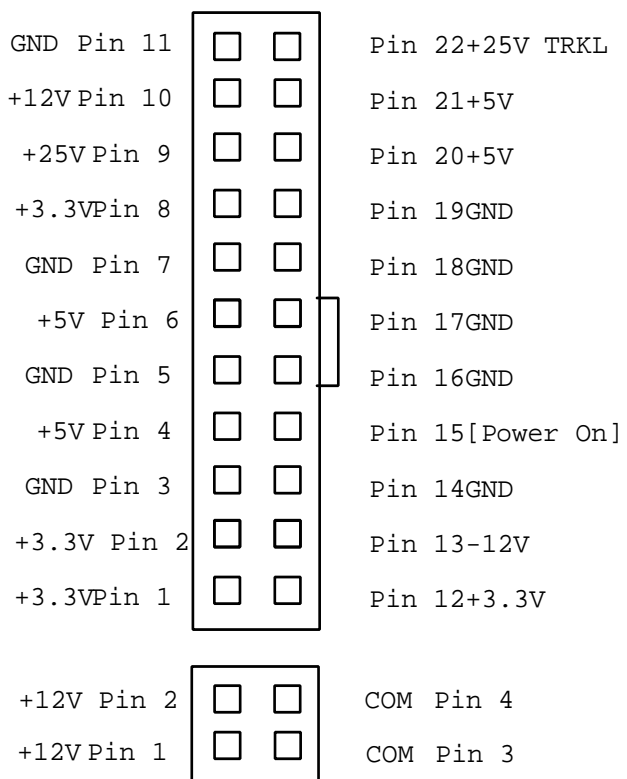

Figure 3. Power Supply 22-Pin Connector and 4-Pin Connector
4. Power Mac G4 (QuickSilver) (see Figure 3):